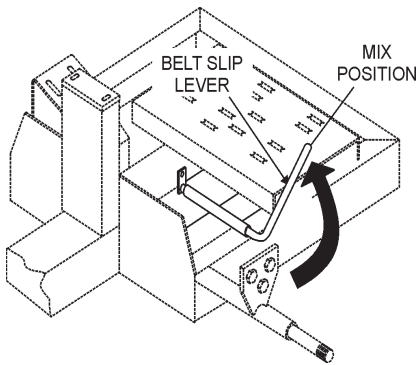

Figure 20. Belt Slip Lever (Mix Position)
- Place the belt slip lever (Figure 20) in the **mix** position. This will tilt the engine placing tension on the V-belts enabling the shaft to rotate.
1. Place the **belt slip lever** in the **start/stop** position (Figure 20).